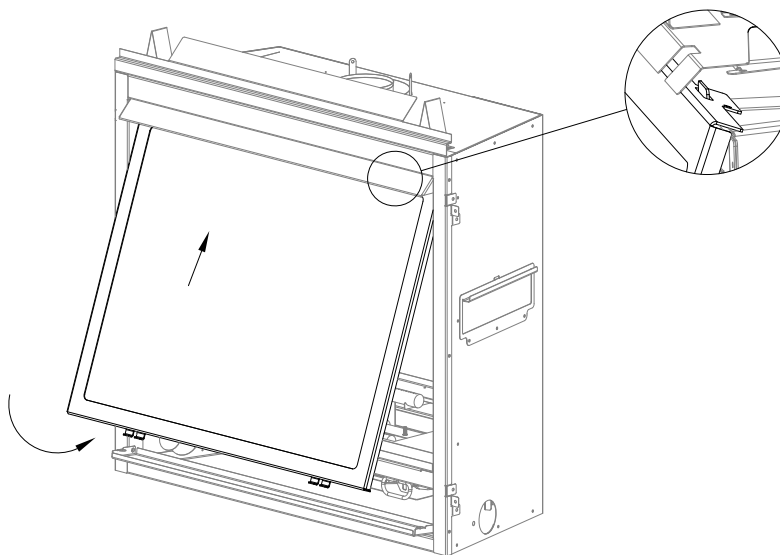

Figure 8.1 - Glass Frame Installation
1. Tilt the top of the glass frame assembly as shown in Figure 8.1. Align the slots on top of the glass assembly over the tabs at the top of the firebox while lowering the bottom of the glass assembly into position.